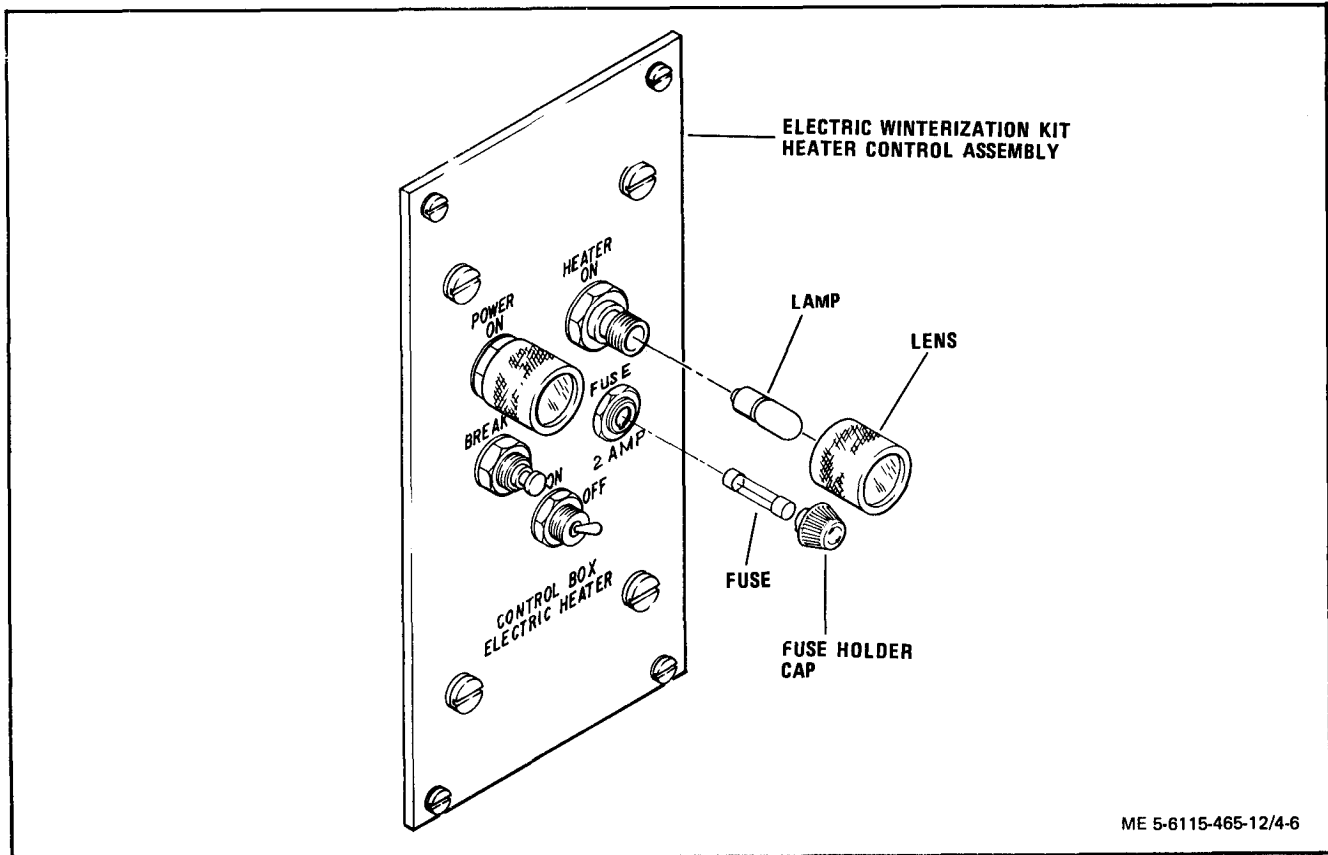

Figure 4-6. Electric Winterization Kit Control Assembly Indicator Lamp Fuse Replacement
(1) Inspection. Inspect indicator lights (figure 4-6) for cracked or broken lens, corrosion, and other damage.
(2) Testing.
(a) Close circuit breaker (figure 4-6) to apply power to control assembly.
(a) Unscrew lens (figure 4-6).
(1) Remove fuse holder cap (figure 4-6).
(2) Withdraw fuse from fuse holder.
(3) Clean fuse with a clean, lint-free cloth lightly moistened with an approved solvent.
(4) Visually inspect fuse for cracks or broken glass, corrosion, and melted conductor.
(5) Use an ohmmeter, check fuse for continuity.
(6) Replace fuse if unserviceable.
(7) Insert fuse into fuse holder and install fuse holder cap.